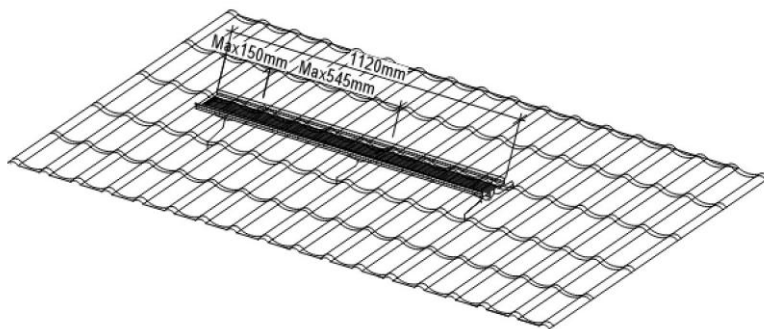

Figure 1.
- Attach the roof footbridge to the tilt adjustment plate using 2 M10x16 screws with a nut and washer. The maximum distance between RP-bracket plates and platform ends is 150 mm (Figures 1 and 2).